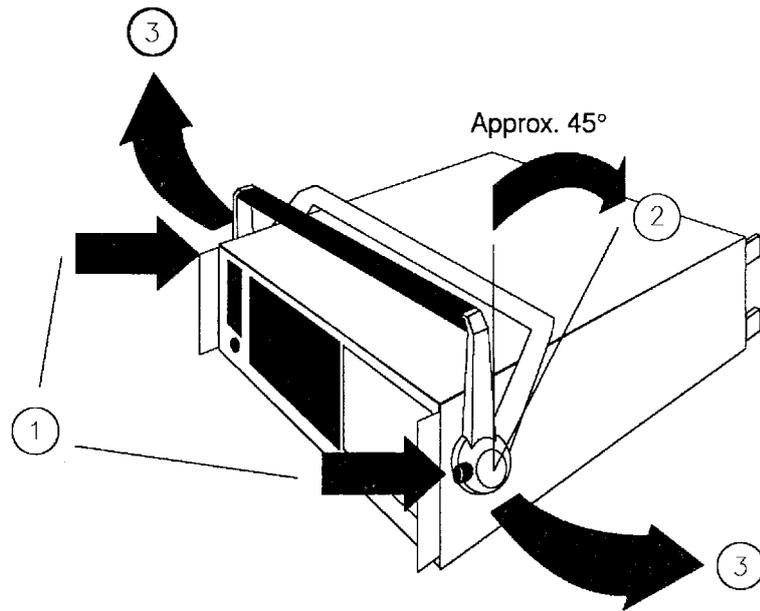

Fig. 3-1 Detaching the carrying handle
- Turn the handle to the position shown in Fig. 3-1 (2)